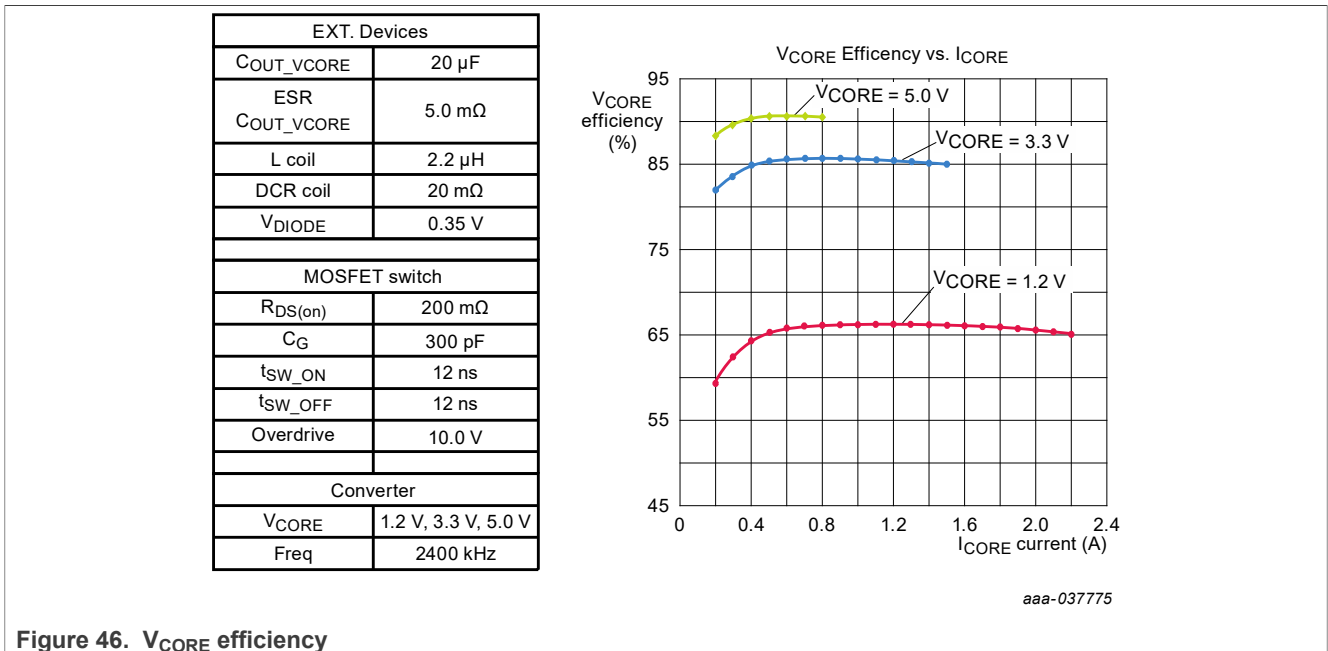

Figure 46. VCORE efficiency
VCORE efficiency versus current load is given for information based on typical external component criteria described in Figure 46, close to the graph and at three typical VCORE voltages (5.0 V, 3.3 V, and 1.2 V), covering most of the MCU supply ranges. The efficiency is valid above a 200 mA load on VCORE to be in continuous mode in the 2.2 μH inductor. The efficiency is calculated and has to be verified by measurement at the application level. One major contributor degrading the efficiency at VCORE = 1.2 V is the external diode during the recirculation phase. The lower the diode forward voltage (VF) is, the better the efficiency.